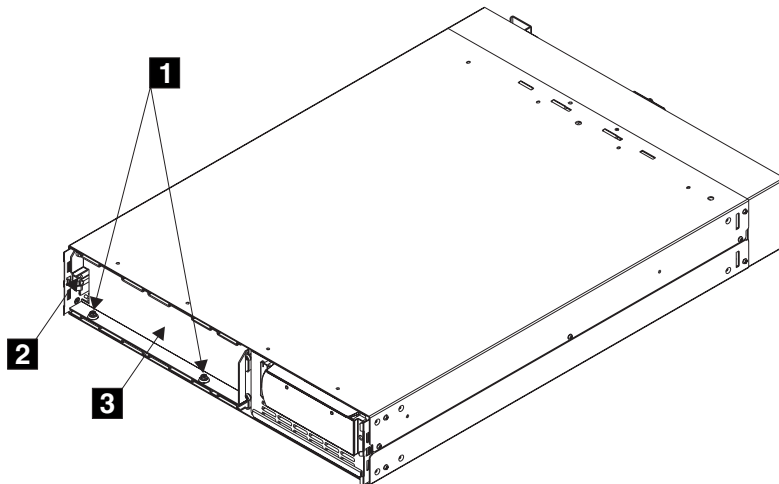

Figure 273. Fastening the battery retaining bracket
3. Perform the following steps to remove the battery retaining bracket, which is shown in Figure 273 on page 274: